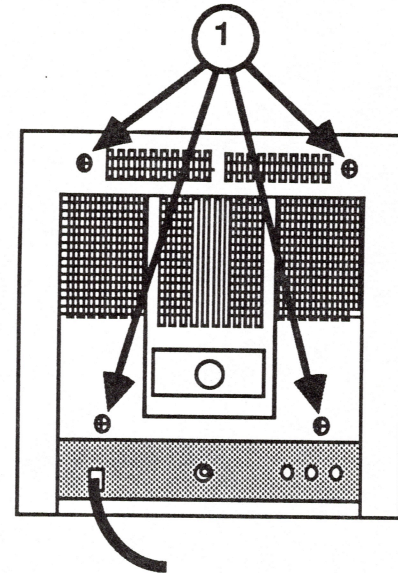

FIGURE 6
5. Remove the four screws (Figure 6, #1) from the back of the monitor.